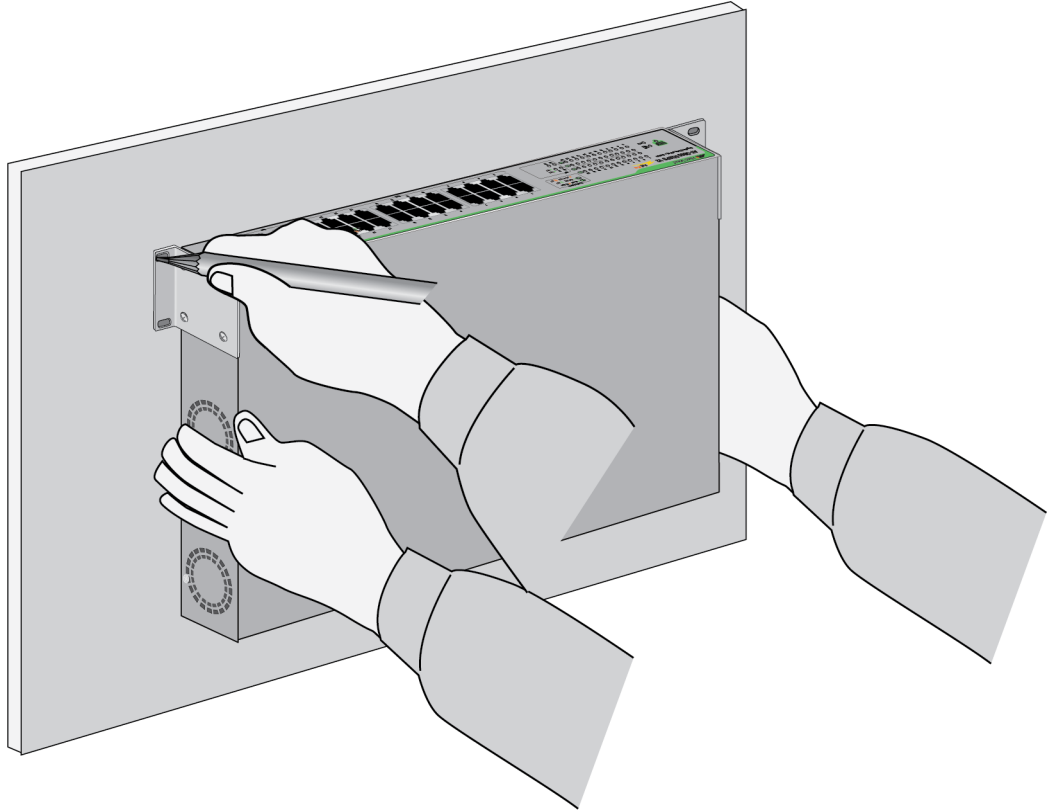

Figure 32. Marking the Locations of the Bracket Holes on a Concrete Wall
3. After attaching the brackets to the side of the switch, have another person hold the switch on the concrete wall at the selected location for the switch while you use a pencil or pen to mark the wall with the locations of the four screw holes in the two brackets. Refer to Figure 32 on page 69.